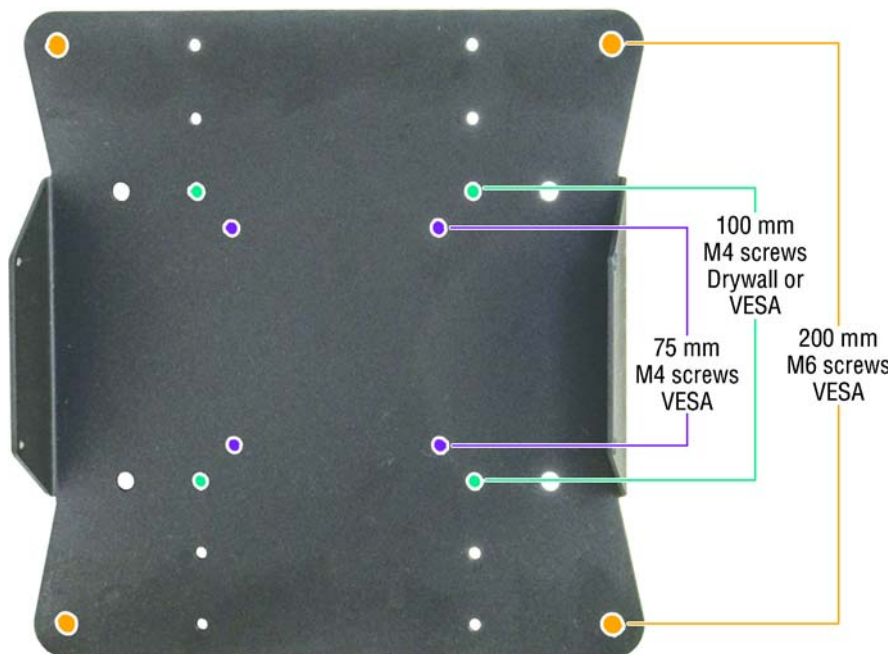

Figure 1. VESA mounting bracket holes
Mounting holes in the VESA mounting bracket align with the VESA standard used by most TV and display manufacturers. The mount is compatible with 75, 100 or 200 mm VESA hole patterns (see **figure 1** on page 5).
Do the following to mount the device on a wall using the VESA mounting bracket (see **figure 1** on page 5):
1. Place the VESA bracket at the desired location where it will be installed. Using the 100-mm holes in the bracket as a template (see **figure 1** on page 5), make a mark inside each of the 4 holes where the mounting hardware for hanging the device will be installed.